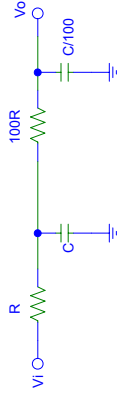

Fig. 2 Passive LPF.
2. Consider the circuit of the passive lowpass filter shown in Fig. 2:
1. Assemble the passive LPF shown in Fig. 2 with the component values you computed in Prelab part 2.